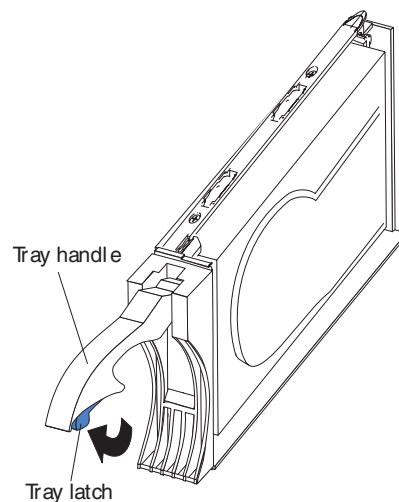

Figure 78. E-DDM CRU handle
- b. Pull the handle on the tray out so that it is in the open position, as shown in Figure 78.
- a. Release the latch on the E-DDM CRU by pressing on the inside of the bottom of the tray handle, as shown by the arrow in Figure 78 on page 125.